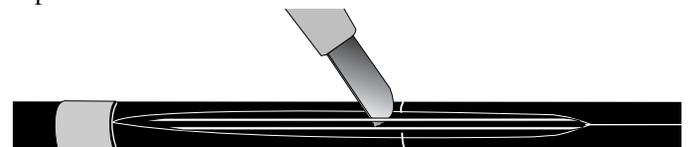

Figure 19
6.10 Using the cable knife, separate the two GRP rods from the jacket at the 15 cm ring cut. Use caution when inserting the cable knife under the GRP rods to avoid damaging the central tube (Figure 19).